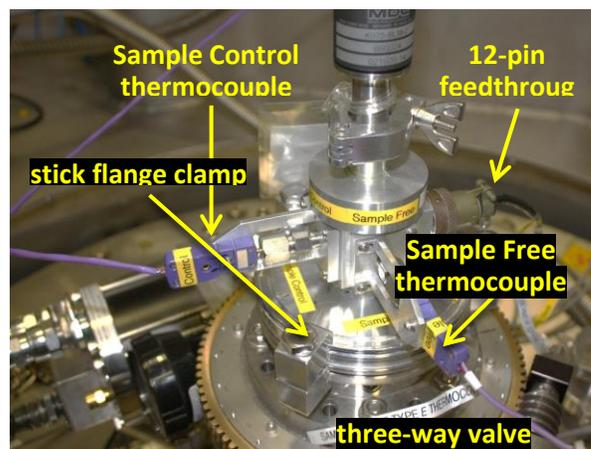

Figure 4. Sample stick connections
- f. Turn the three-way valve to the left to evacuate the sample space (Figure 4).
- h. Unplug the 12-pin connector from the stick (Figure 4).
- j. Remove the stick flange clamps (Figure 4).
- k. Immediately start flowing He, by turning the three-way valve to the right to leave He flowing (Figure 4).